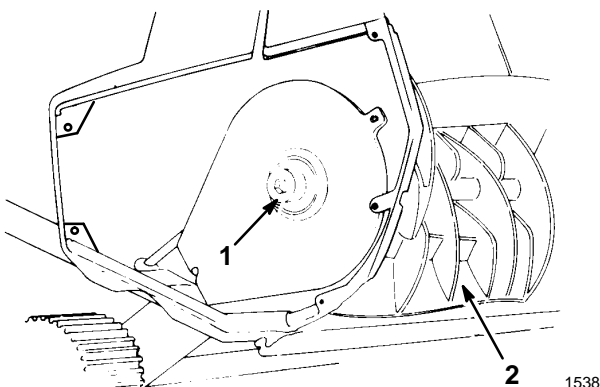

Figure 13
2. Using a 3/8" Allen wrench, turn rotor shaft clockwise (left hand thread) while holding rotor (Fig. 13). The Allen wrench may need to be tapped with a hammer to loosen rotor shaft. Wedge a stick or hammer handle in rotor to prevent rotation.